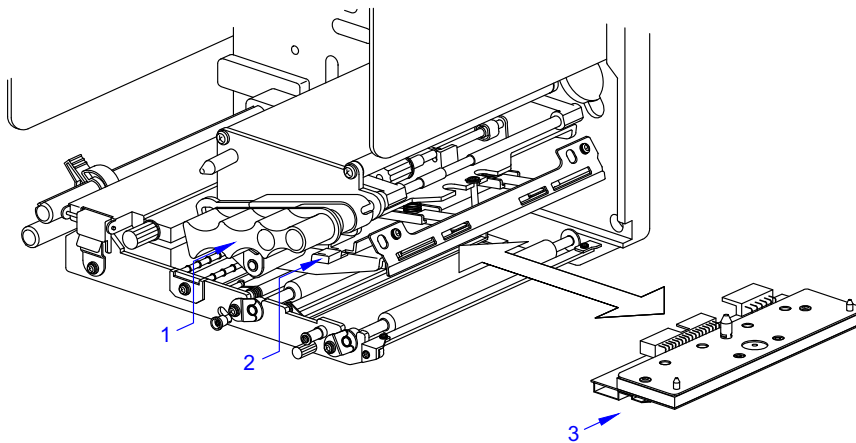

Figure 6-2, Print Head Replacement
2. Disengage print head latch (1, Figure 6-2) and remove ribbon stock as necessary.
3. Pull outward on print head release knob (2) to release defective print head (3) from print assembly.
4. Disconnect the two wiring harnesses (not shown) from defective print head (3).
5. Reconnect two wiring harnesses (not shown) to replacement print head (3).